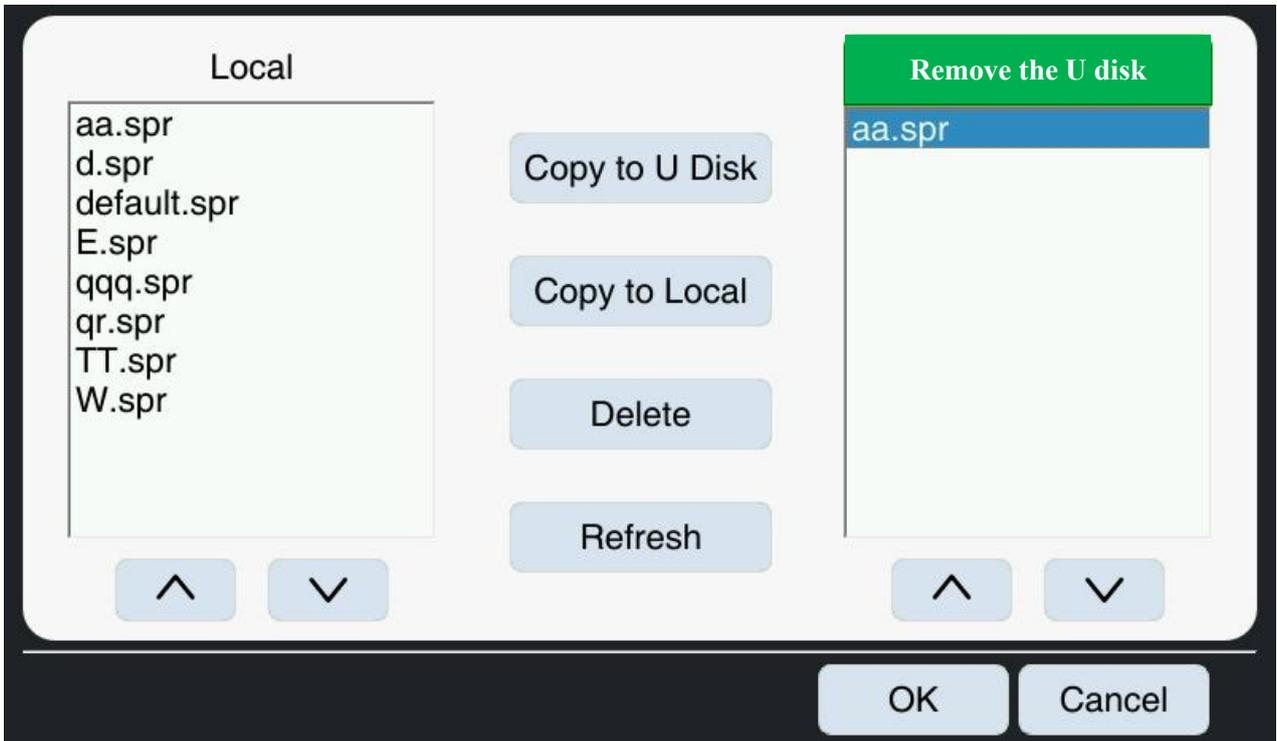

Figure 5-17 Download file interface
2. Click the **Refresh** button to copy files. The download file interface is shown in Figure 5-17. First, you need to find the file you want to copy in the file list, **Copy to U Disk** and then click **Copy to Local** the button or click the button to complete the copy.